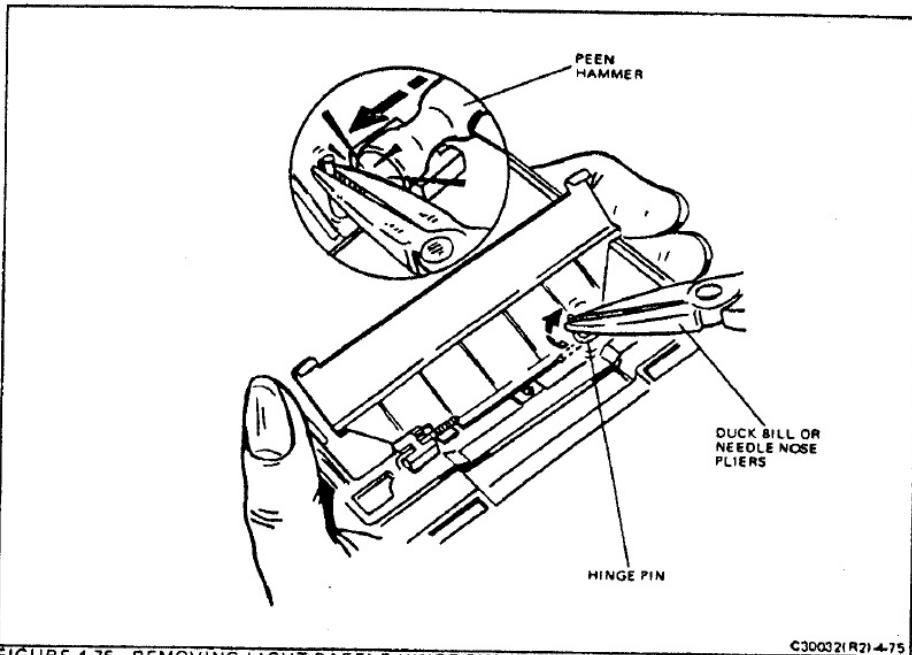

FIGURE 4-75 REMOVING LIGHT BAFFLE HINGE PIN
6. Use duck-bill or needle-nose pliers: grasp the light baffle hinge pin and bend it to a 90° angle. See Figure 4-75. Use a small peen hammer and knock the pins inboard, striking the tool while holding the bent end of the pin. Remove the left-hand (viewed from rear) pin first. Remove the spring and light baffle by sliding off the right-hand pin.